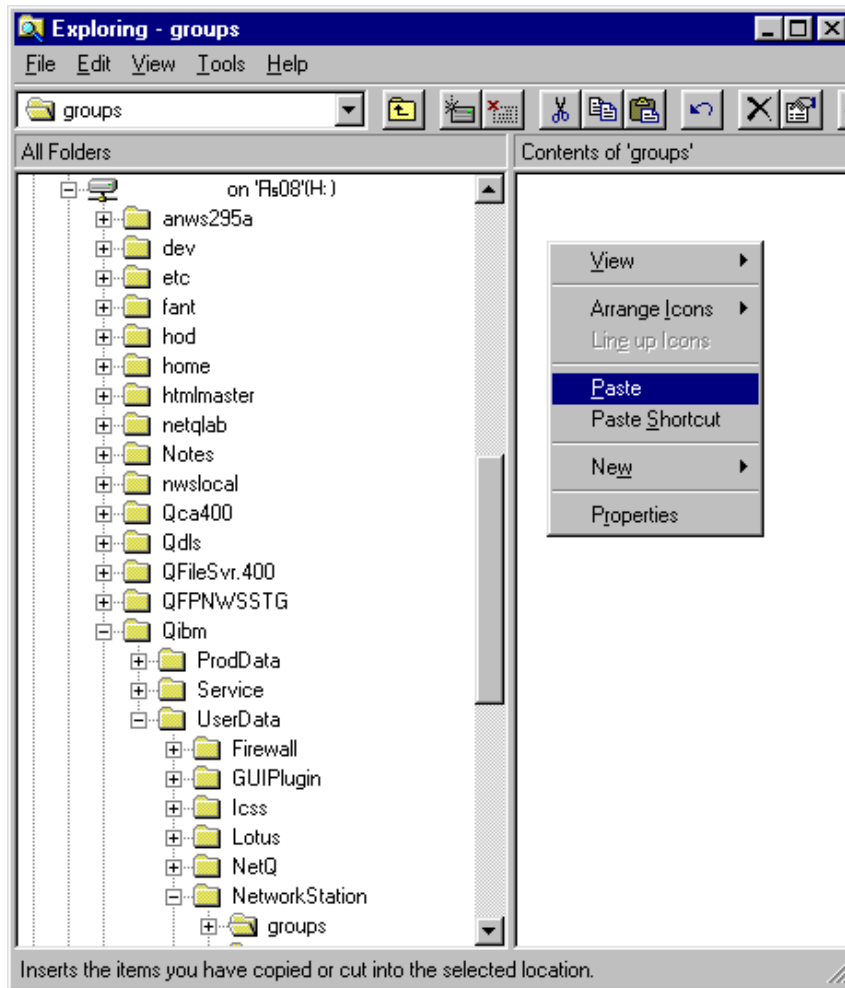

Figure 29. Paste Group's Configuration Files
26. Select **G:—> QIBM —> UserData —> NetworkSation —> Groups** folder on the left pane. On the right pane right-click over a white area and select **Paste**, as shown in Figure 29 on page 117.